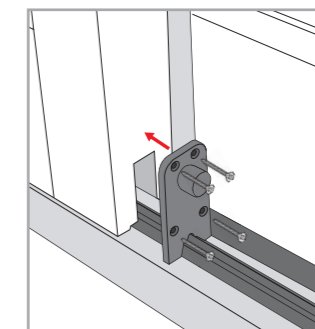

Figure 22: Bottom rail stop plate.
**Step 8** - Line up the rear side stop plate (bottom) and screw the plate in place as shown in Figure 22.